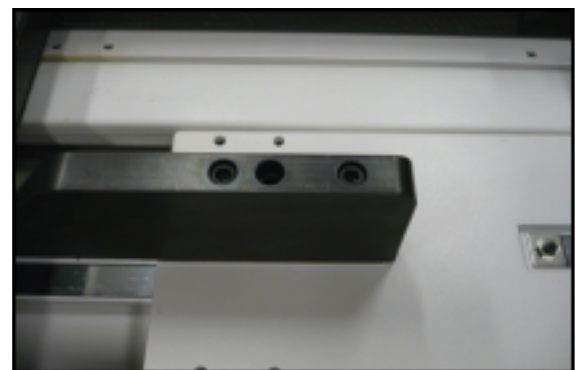

Fig. 47
5. Secure kVue to the Interface Plate using (6) 3/8-16 x 4" (101 mm) screws provided. Torque the 6 screws to 20–30 ft-lbs (34–40 N-m) (Fig. 47).